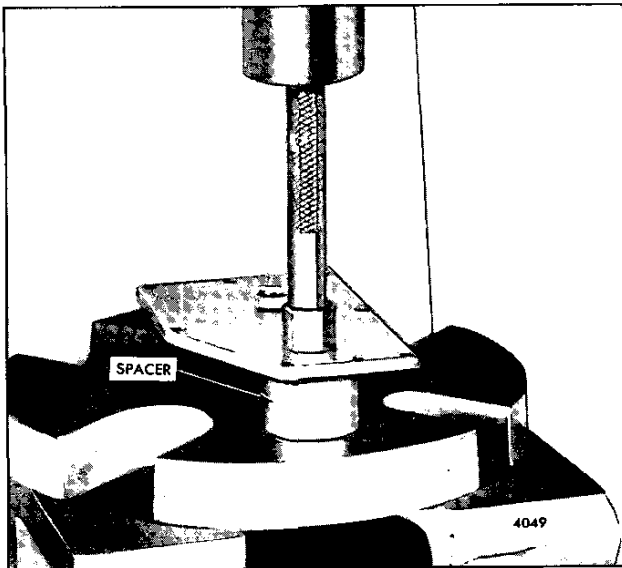

Fig. 5 - Removing Governor Cover Bearing Using Tool J 21967-01
10. If the bearings are to be removed, place the governor cover on an arbor press and press them out with bearing remover J 21967-01 (Fig. 5).